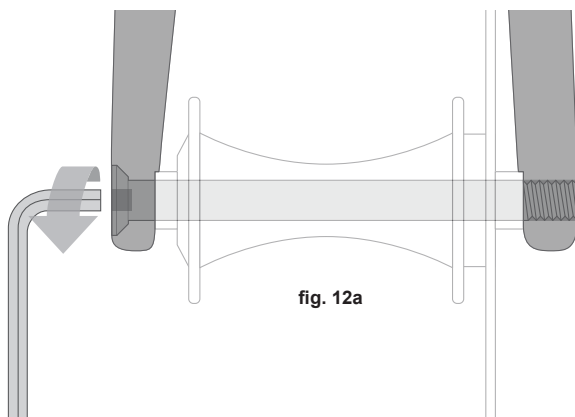
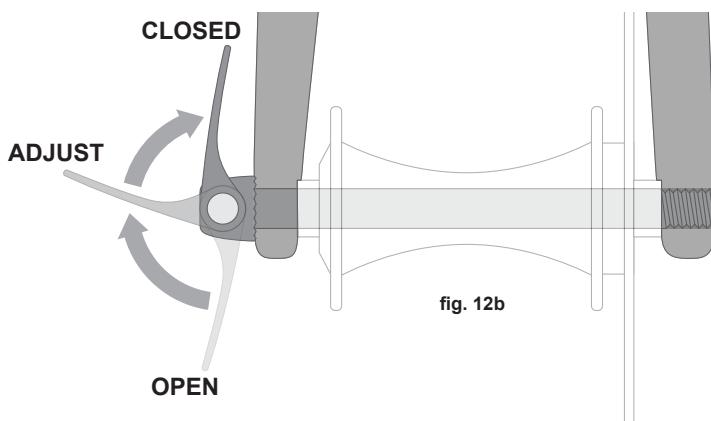

fig. 12a
fig. 12b
a. Adjusting the thru-axle mechanism (fig. 12a & 12b)
The thru-axle is inserted through the unthreaded hole in the frame or fork's dropout, through the wheel hub, and is threaded directly into the opposing dropout by tightening the thru-axle. Common installation methods may use an Allen hex key (fig. 12a) or a cam lever (fig. 12b). Please refer to the manufacturer's instructions for specific information about your thru-axle's operation, including correct torque specifications or lever adjustment information.
(4) If your bike has a thru-axle front wheel mounting system (**figs. 12a & 12b**), loosen and remove the thru-axle according to the manufacturer's instructions, then remove the front wheel.
- (c) With a thru-axle system, tighten the thru-axle (**figs. 12a & 12b**) according to the manufacturer's instructions.
(5) If your bike has a thru-axle rear wheel mounting system (**figs. 12a & 12b**), loosen and remove the thru-axle according to the manufacturer's instructions.
(6) Push the rear wheel forward far enough to be able to remove the chain from the rear sprocket, then lift the rear wheel off the ground a few inches and remove it from the rear dropouts.
(c) With a thru-axle system, tighten the thru-axle (**figs. 12a & 12b**) according to the manufacturer's instructions.